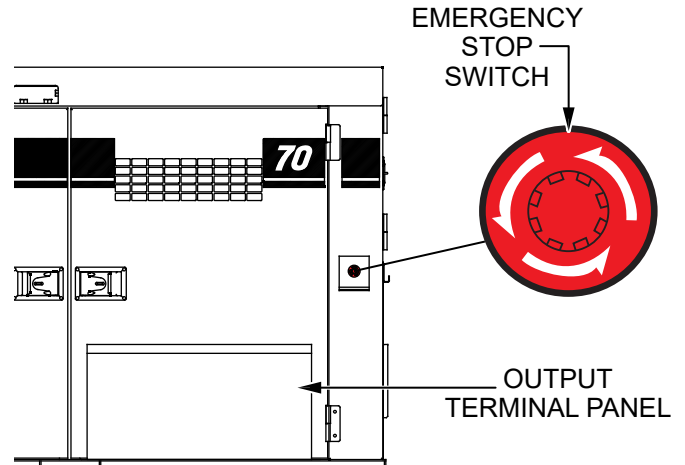

Figure 47. Emergency Stop Switch
1. To stop the engine in the event of an emergency, push the **Emergency Stop switch** (Figure 47). This switch is located on the side of the generator next to the output terminal panel.